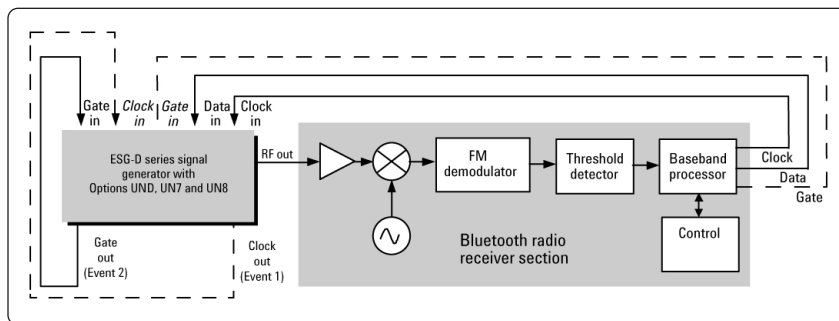
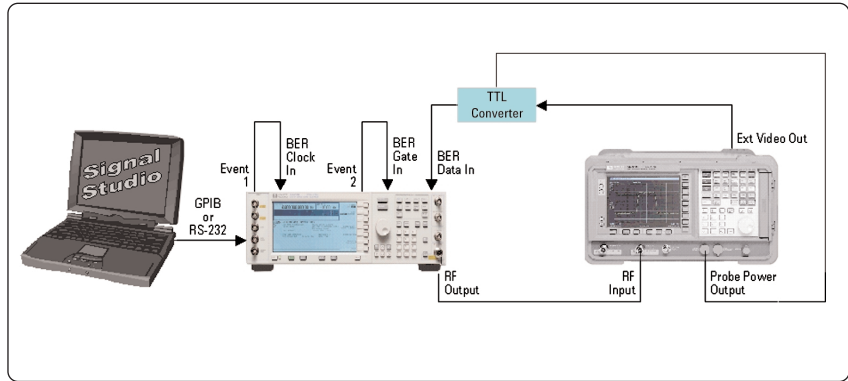

Figure 29. BER test setup for a *Bluetooth* device in "continuous receive" operating mode. Note: Dashed lines indicate alternate configurations.
Figure 31. Example BER measurement setup using the ESA to demodulate the *Bluetooth* signal generated by the ESG.
An example BER measurement setup is illustrated in Figure 29. In this setup, the ESG is configured to provide a *Bluetooth* modulated RF signal using *Signal Studio-Bluetooth*. The RF test signal consists of a sequence of *Bluetooth* modulated DH1 packets with continuous PN9 payload data.
This example illustrates the procedure for performing Clock/Gate Delay Calibration using Signal Studio. In this example, the measurement setup illustrated in Figure 31 is used. This is very similar to the test setup illustrated in Figure 29; however, for demonstration purposes, the Agilent ESA series spectrum analyzer (with the *Bluetooth* measurement personality) is used to demodulate the *Bluetooth* signal generated by the ESG instead of an actual *Bluetooth* receiver.
1. Connect the test setup as shown in Figure 31 and preset the ESG.